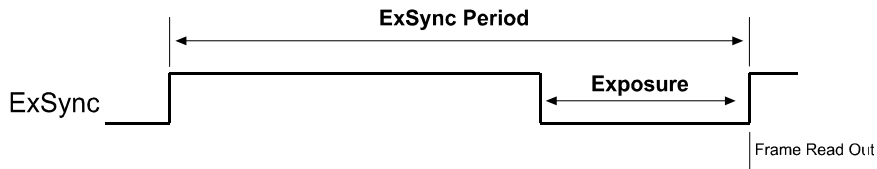

Figure 4-2: ExSync Level-controlled Mode
- In **ExSync level-controlled mode**, the exposure time is determined by the time between the falling edge of ExSync and the next rising edge. The pixels are exposed and charge is accumulated only when ExSync is low. The frame is read out and transferred on the rising edge of the ExSync signal (see Figure 4-2).